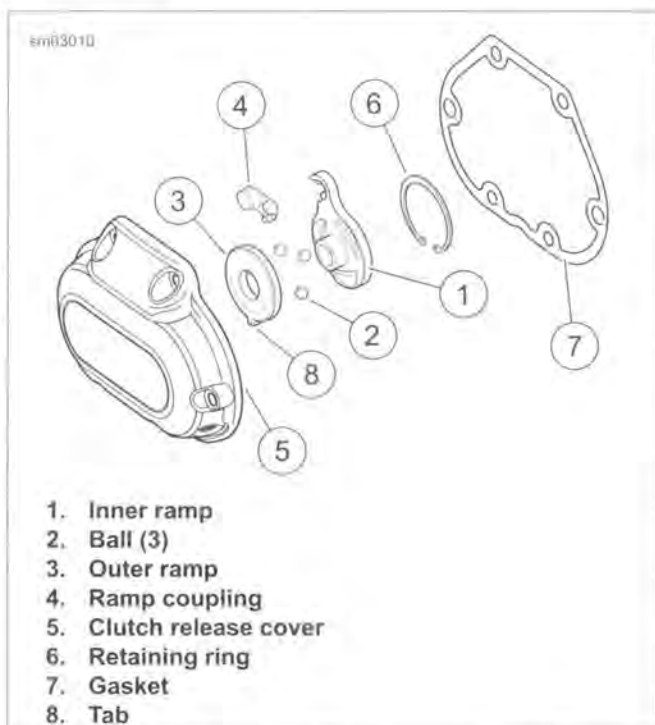

Figure 6-7. Release Mechanism Assembly
1. See Figure 6-7. Wash the ball and ramp mechanism components in cleaning solvent.
2. Inspect the three balls (2) and ball socket surfaces on ramps (1, 3) for wear, pitting, surface breakdown and other damage. Replace as necessary.
3. Check fit of the ramp coupling (4) on inner ramp (1). Replace both parts if there is excessive wear.
4. Inspect the retaining ring (6) for damage or distortion.
6. Check the bore in the clutch release cover (5) where the ramps (1, 3) are retained. There should be no wear that would cause the ramps to tilt, causing improper clutch adjustment.
2. See Figure 6-7. Place outer ramp (3) with ball socket side up in clutch release cover. Confirm tab (8) is in clutch release cover slot.